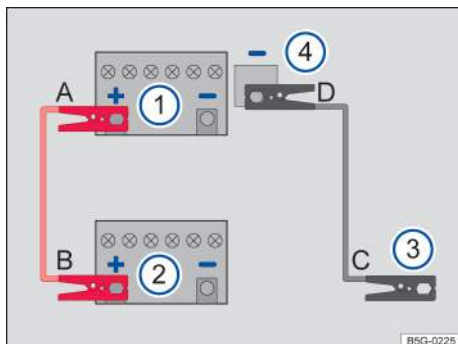

Fig. 161 Diagram for attaching the jumper cables: Dead battery ⓘ and booster battery ⓘ.
Key to **fig. 161**:
which follow the letters shown in the illustration → **fig. 161 A – B – C – D**.
3. Attach one end of the **red** jumper cable **A** to the **positive battery terminal** → **fig. 161 +** on the dead battery: ⓘ → ⚠️.
4. Attach the other end of the **red** jumper cable **B** to the **positive battery terminal** → **fig. 161 +** on the good battery (booster battery): ⓘ.
5. Attach one end of the **black** jumper cable **C** to the **negative jump-start terminal** of the vehicle **providing** assistance: → **fig. 161 ⓘ** (→ page 234, *Jump-start terminal*), or if that is not available, to a bare metal part of the vehicle **providing** assistance. This part should be connected directly to the engine block.
6. Attach the other end of the **black** jumper cable **D** to the **negative jump-start terminal** of the vehicle **receiving** assistance → **fig. 161 ⓘ** (→ page 234, *Jump-start terminal*), or if that is not available, to a bare metal part of the vehicle **receiving** assistance. This part should be connected directly to the engine block. Attach the clamp to a point that is as far away as possible from the dead battery ⓘ → ⚠️.